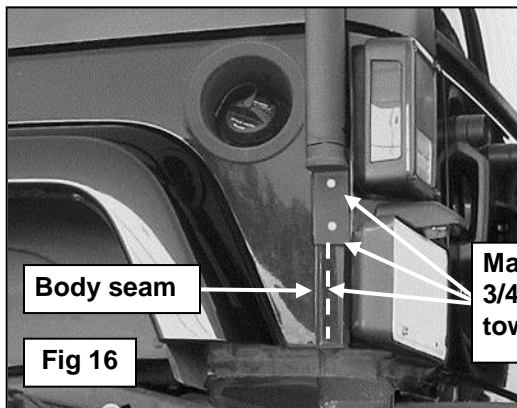
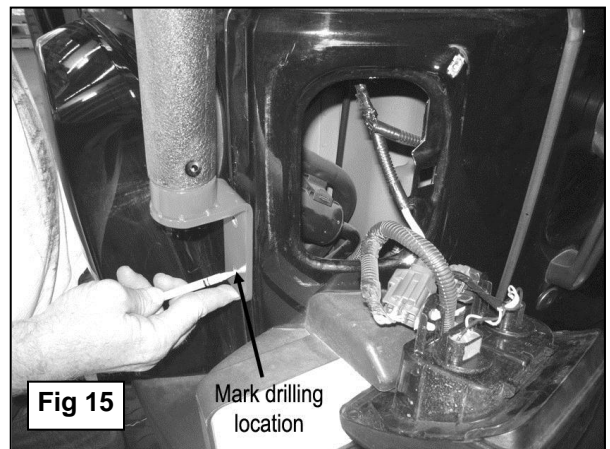

Fig 16
Fig 15
17. Align the Side Rails parallel with the roof of the vehicle, and then use the holes in the Short Bottom Bracket as a template to mark the drilling location on the vehicle, (**Figure 15**). **NOTE:** Center of the holes must be 3/4" from body seam, (**Figure 16**).